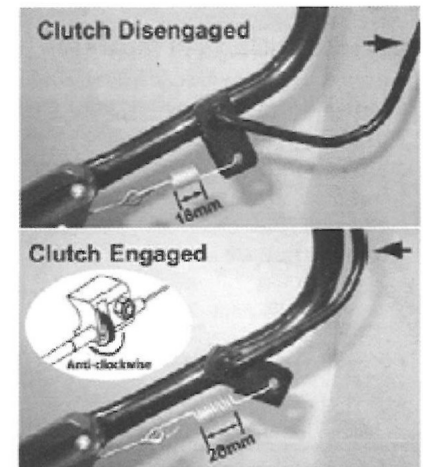

figure 17. Clutch adjustment
Adjusting the Drive Cable - refer figure 17.
- Measure the length of the clutch spring (18mm) when the clutch engagement lever is in the disengaged position. Refer to figure 17.
- Push the clutch engagement lever forward until it touches the handlebar (drive engaged position). The clutch spring should be stretched to 28mm (10mm longer). Refer to figure 17.
- To adjust the clutch spring stretch rotate the thumb wheel (A) on the cable support block (one click at a time).
Refer to figure 17.